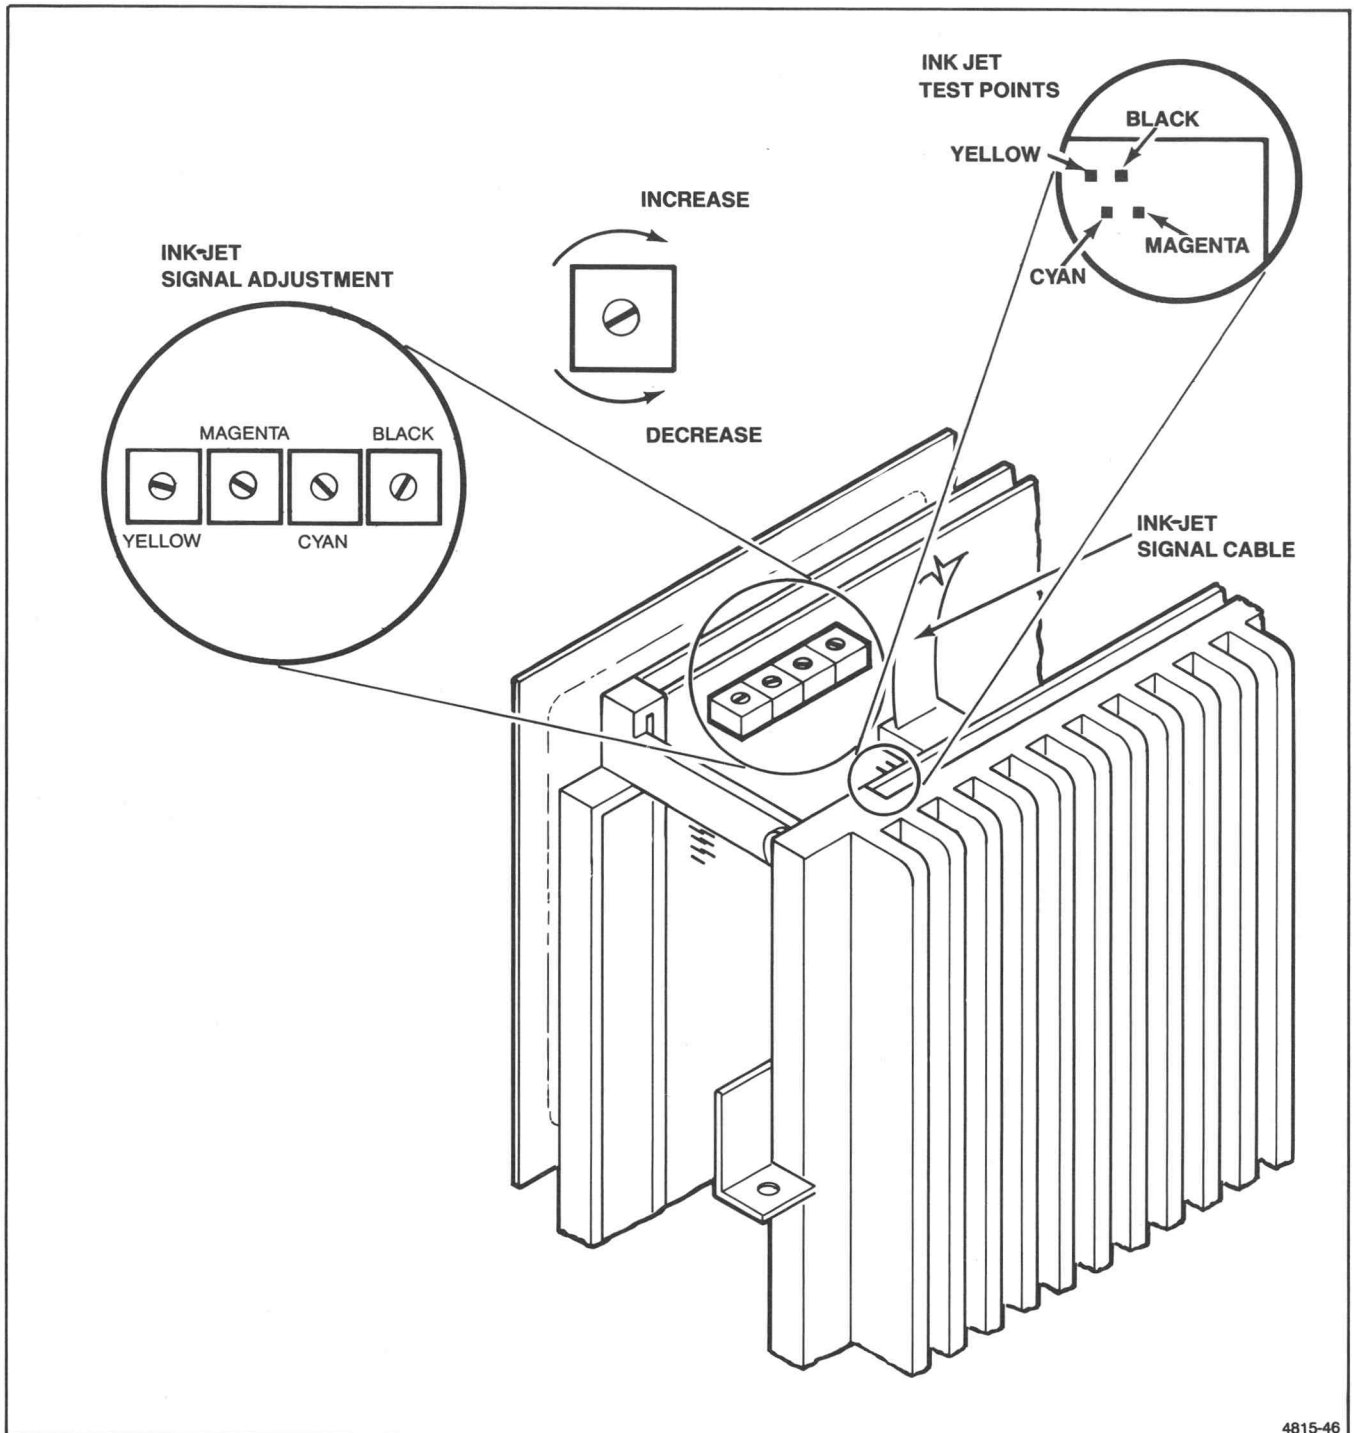

Figure 5-10. Ink-jet Head Voltage Test Points and Adjustments.
1. Locate the head voltage test points on the Drive Module. See Figure 5-10.
4. Connect a 10X probe to each of the test points shown in Figure 5-10 while adjusting the appropriate pot for the proper drive voltage. The yellow, cyan and magenta ink-jet heads setting is 185 volts p/p (65.4 volts RMS) while the black ink-jet head setting is 196 volts p/p (69.3 volts RMS).